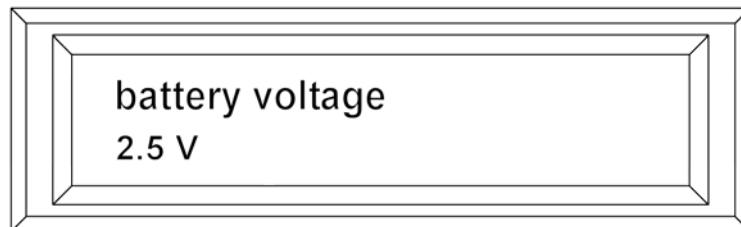

Figure 3.17. Displaying the battery voltage.
- Step 3.** Press the “▼” button twice and the battery voltage is shown (*figure 3.17*).